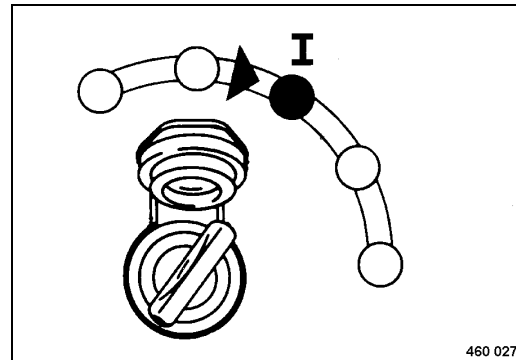

Fig. 78
- Turn the starter switch to position "I" (Fig. 78). The control unit shows the start screen.